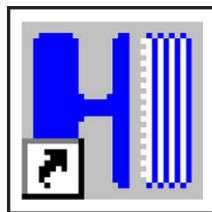

Figure 4 - Hübner Software Icon
- 1.9. Start the Hübner software by clicking the icon. See Figure 4.